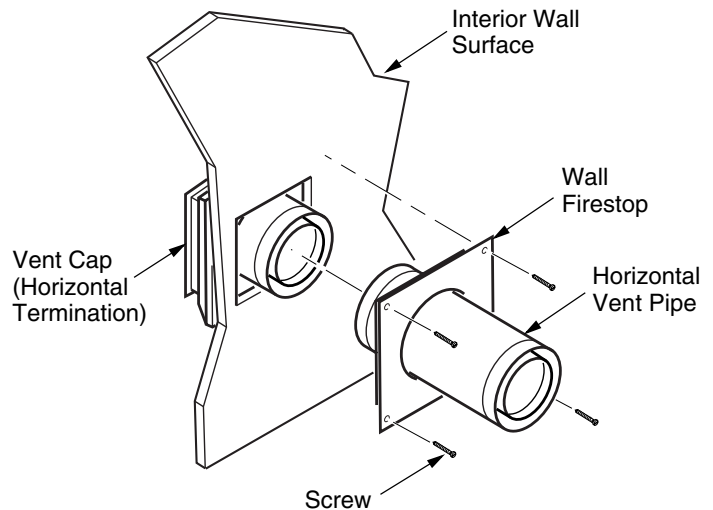
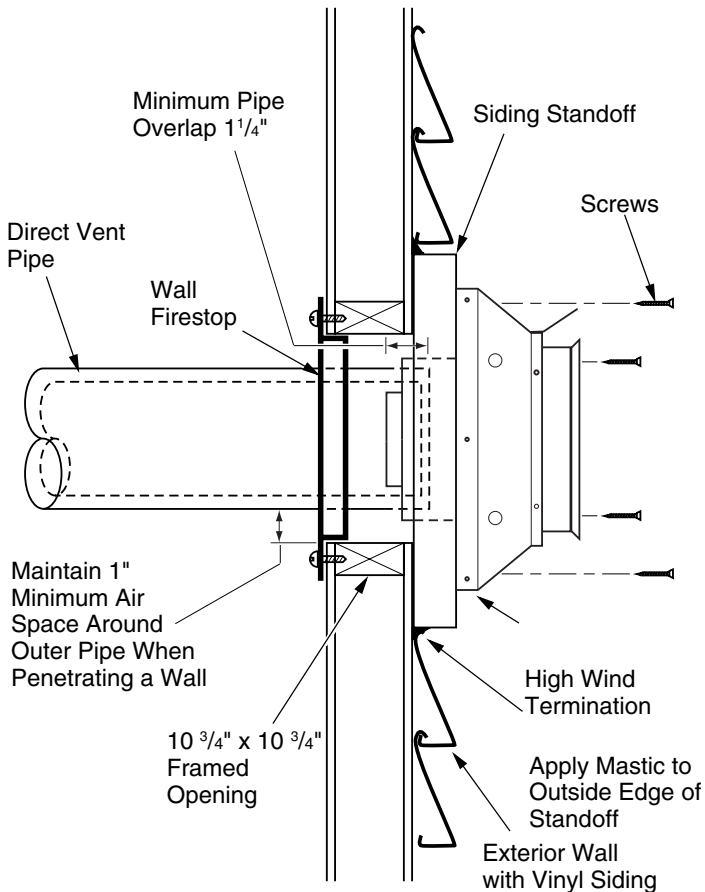

Figure 12 - Connecting Vent Cap with Horizontal Vent Pipe
Figure 13 - Typical Horizontal Termination Cap Mounting with Additional Siding Standoff Installed
7. **Combustible Exterior Wall Only:** Slide the wall firestop over the vent pipe before connecting horizontal run to vent cap (see Figure 12).
9. **Combustible Exterior Wall Only:** Slide wall firestop against interior wall surface and attach with screws provided (see Figure 12). See Figure 13 for horizontal termination details.